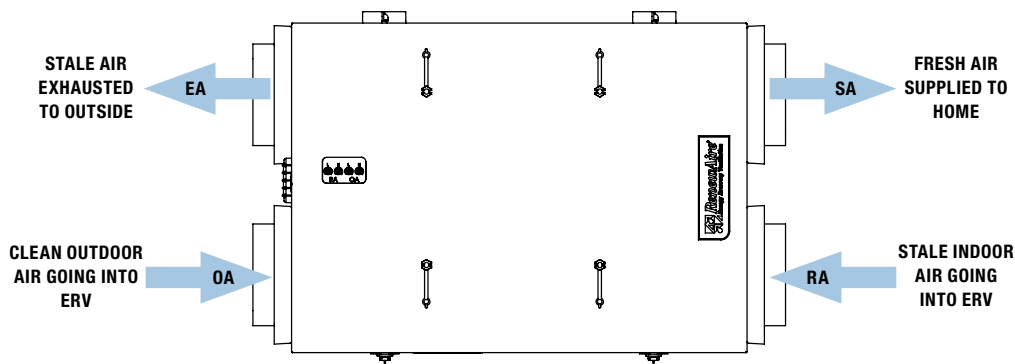

FIGURE 5.0.0 SL-SERIES AIRFLOW PATTERN
**NOTE:** Airstreams may be swapped during installation. This is an acceptable installation that does not effect unit performance or warranty. If airstreams are swapped, the OA and RA arrows will switch positions in Figure 5.0.0, as well as the EA and SA arrows. The installer should note if airstreams are swapped.